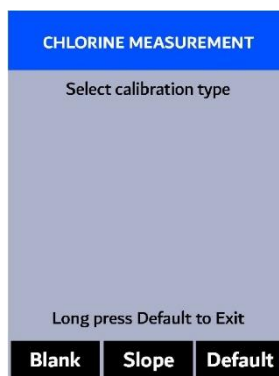

Figure 37.
4. Press **OK** to launch the **CHLORINE CALIBRATION** screen (Figure 37).